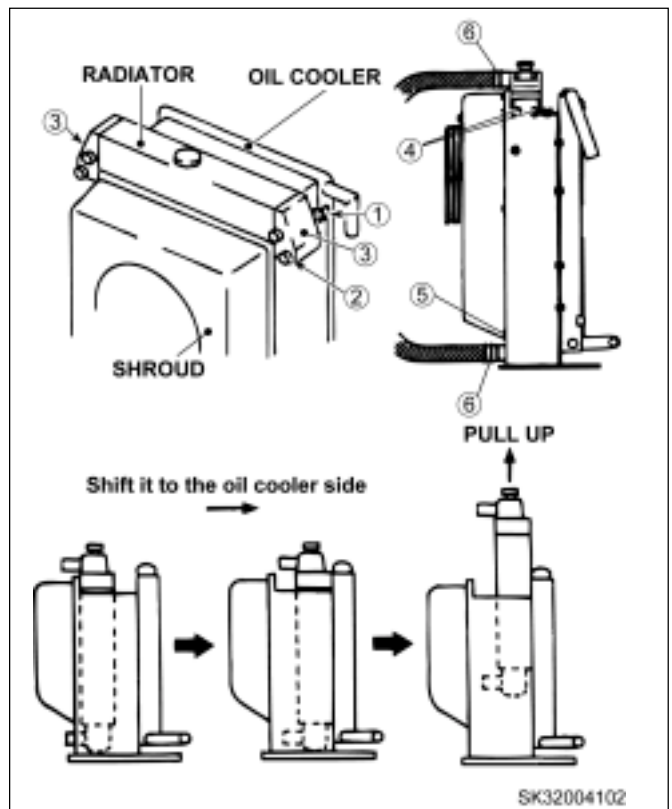

FIGURE 4.47C
5. Loosen four M8 cap screws ② and remove side pads ③ from the R.H. and L.H. sides of the radiator shoulders. See Fig. 4.47C.
6. Remove four M10 capscrews ④ from the top of radiator, two from each side.
7. Remove two M8 capscrews ⑤ from the lower side of radiator. See Fig. 4.47C.
8. After making sure that the cooling mixture is completely drained out, loosen the radiator hose clamps ⑥, and remove hoses from the radiator side only. See Fig. 4.47C.
9. Move the radiator toward the oil cooler side, and remove it paying attention not to damage the insulation. See Fig. 4.47C.